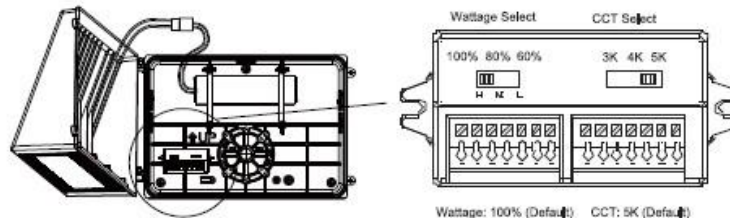

Fig9
Step 5. Choose your desired wattage and color temperature using the DIP switches (located inside the unit) (Fig9).